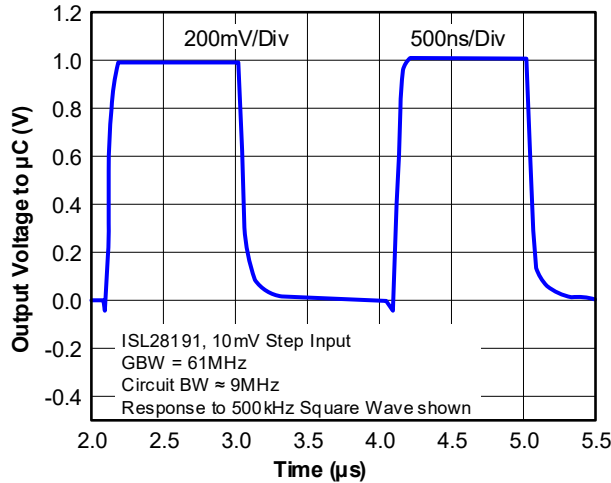

Figure 7. Simulated Response of the Circuit in Figure 5. The ISL28191 is used in Place of the ISL28133
- A higher bandwidth amplifier can be used to accurately replicate the current waveform in a switching power supply. The ISL28134 has a GBW (gain-bandwidth) of 3.5MHz and only 2.5µV offset. The ISL28191 has 61MHz GBW with a max offset of 630µV. Figure 7 shows the simulated response of the circuit in Figure 5, using the ISL28191 when a 10mV square wave is imposed across  $V_{C1}$ . The circuit amplifies the signal by 100x and replicates this 500kHz waveform with little loss of the higher frequency harmonics. This can be extremely useful for peak current detection in switching supplies.